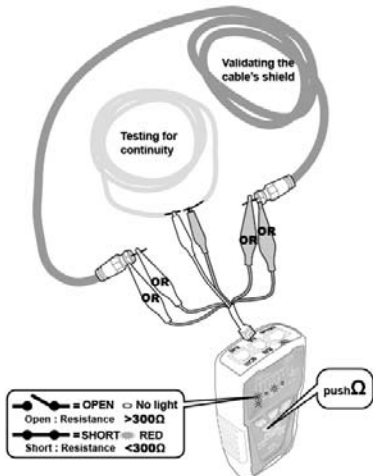

Figure 9 Coaxial Cable & Continuity Test
To validate cable shield during cable map tests, do the following as shown in Figure 9:
1. Connect the Transmitter to the circuit as shown in Figure 9. Connect the test leads to the telephone punch-down blocks, RJ11, and RJ45 jacks.